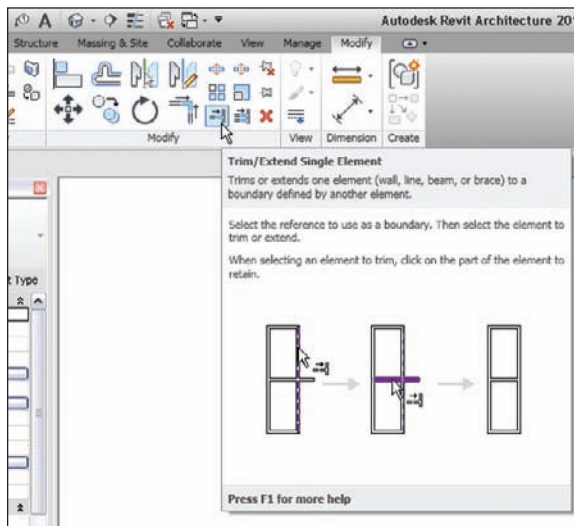

FIGURE 4.43 Click the Trim/Extend Single Element button on the Modify tab.
3. On the Modify tab, select the Trim/Extend Single Element button, as shown in Figure 4.43.